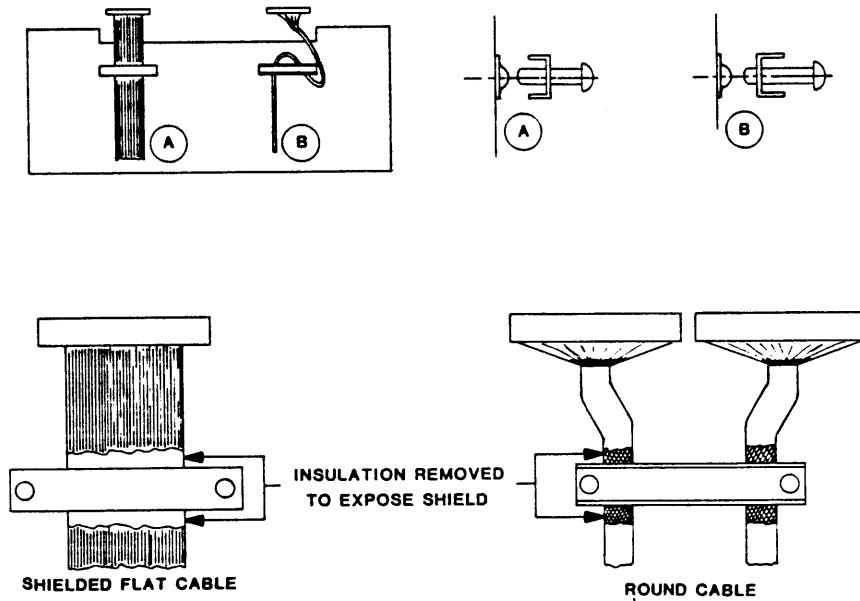
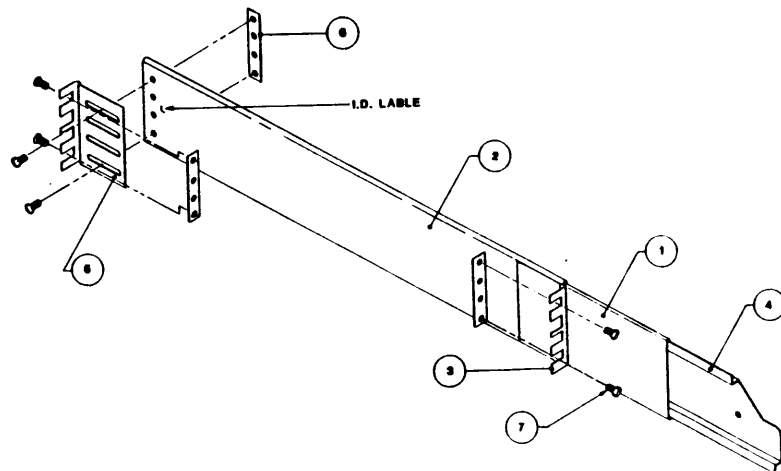

Figure 2-3. Grounding Cable Clamp Details
Figure 2-7. Track Subassembly
Recommended connectors and cables are as follows: - Daisy chains may optionally require a Cable Connector Adapter (See Figures 2-3 and 2-5).
- A. Referring to Figure 2-7, Install the Right Track Assembly on the right side of the 19-inch Rack as follows:
- 1. Using the 10-32 Slotted Screws (7) and Nut Plates (6)* provided, loosely assemble an Adjustable Mounting Bracket (5) to the rear of the Right Track Assembly.
- 3. Aligning the bottom of the Fixed Mounting Bracket (3) at the 2-inch mark on the front of the 19-inch Rack, and using the 10-32 Screws (7) provided, mount the Fixed Mounting Bracket (3) to the front of the 19-inch Rack, and mount the Adjustable Mounting Bracket (5) (loosely attached to the rear of the Center Track) to corresponding holes in the the rear of the 19-inch Rack. Level the Track and tighten all Screws.
- E. Remove about an inch of insulation from each Interface Cable at a point where the Cable will pass under the Grounding Cable Clamp(s). This will expose the cable shield. Run the Interface Cables under the Cable Clamp(s) as illustrated in Figure 2-3. Tighten the Clamp(s).